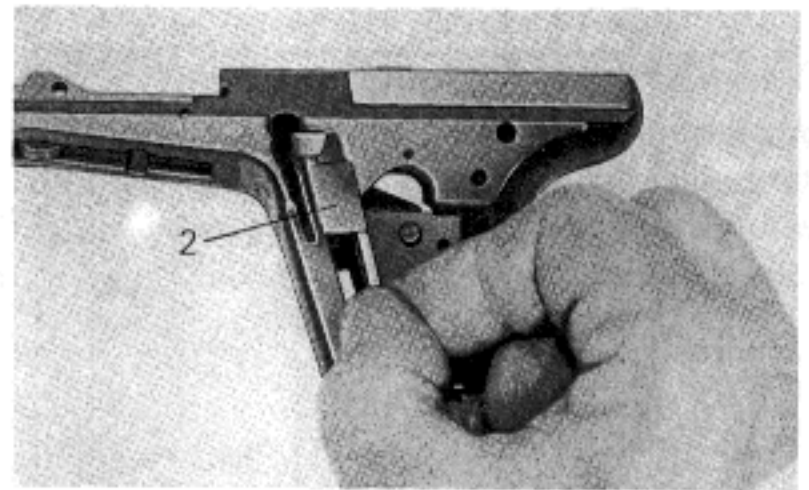

Fig. 29
- Examine the receiver (1) for cracks; the guide grooves must be correctly aligned and devoid of any distortion.
- The buffer housing (13) must be examined for crack formation and bulging.
- The elastic buffer (12) must not be squashed.
- The functional hook on the pull bar (18) must not have excessively rounded-off points.
- The catches on the intermediate lever (30), hammer (20), and catch lever (17) must not show any signs of heavy wear or damage.
- Insert the catch (2) into the receiver (1) and push it up through its full travel (Fig. 29).